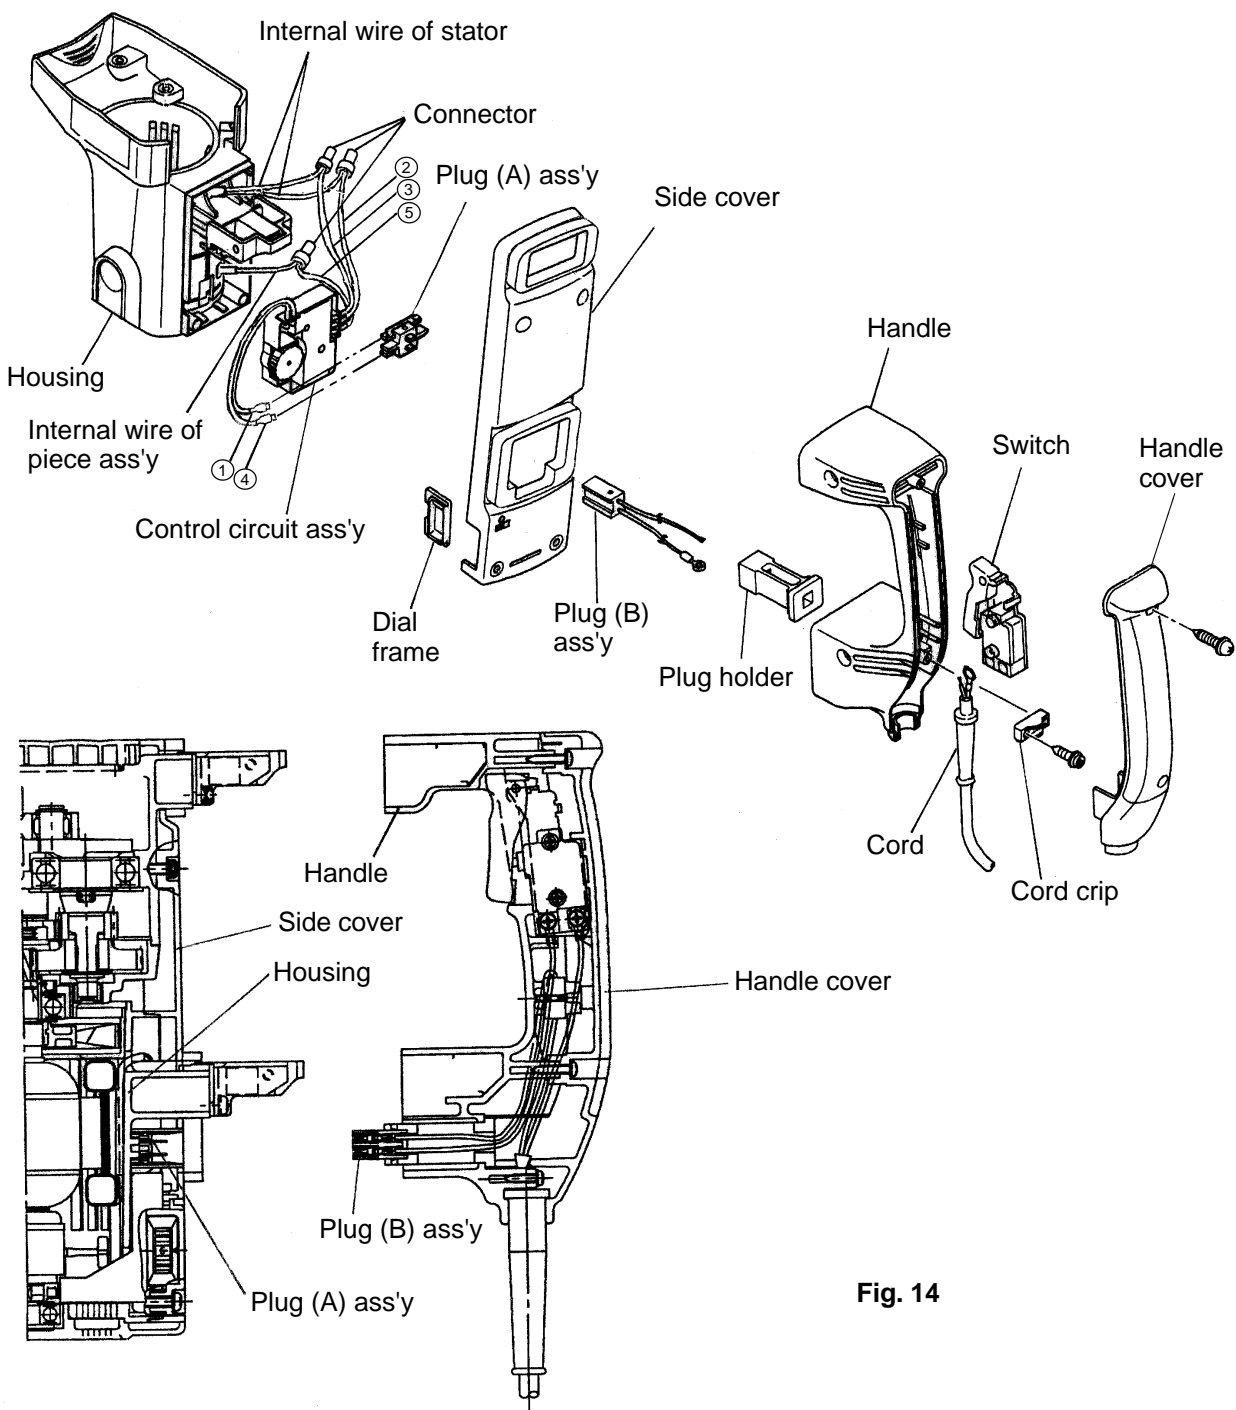

Fig. 14
The wiring connections are described below with reference to Fig. 14. The Model DH 50MB uses a plug-in module type wiring system consisting of plug (A) ass'y and plug (B) ass'y. The internal wires (2 and 3) of the control circuit ass'y and the internal wires from the stator, and the internal wire (5) of the control circuit ass'y and the internal wire from the piece ass'y, are press-connected by crimp-on connectors. The rest of the internal wires (1 and 4) of the control circuit ass'y are connected to the plug (A) ass'y, then the plug (A) ass'y is fitted into the housing. The plug (B) ass'y is fitted into the handle section through the plug holder and is connected with the switch terminal and cord. Wiring connection is complete when the housing section, the handle and handle cover section are all assembled and then fastened together with screws. With such a wiring structure, assembling and disassembling procedures associated with wiring connection have been largely simplified over previous models.